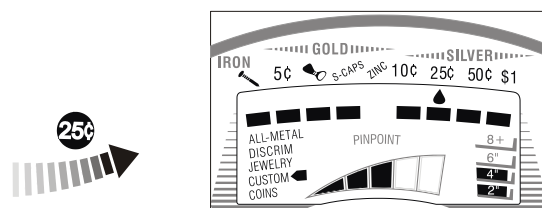

Fig15
- e) When sweep the other three samples, the response of the detector is the same with the ALL METAL mode.(See Figure.15,for example as 25 ¢)